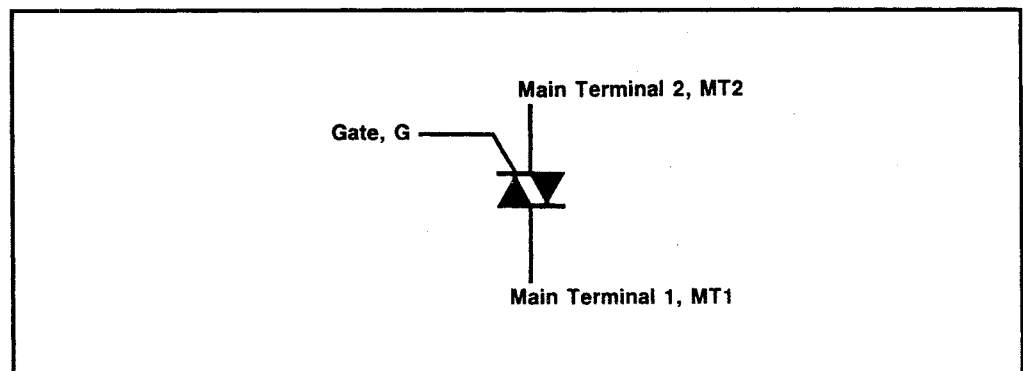

Figure 1: Triac symbol and connections
Triacs are a refinement of the thyristor which, when triggered, conducts on both positive and negative half-cycles of the applied voltage. Triacs have three terminals known as main terminal one (MT1), main terminal two (MT2) and gate (G), as shown in Figure 1. Triacs can be triggered by positive and negative voltages applied between G and MT1 with positive and negative voltages present at MT2 respectively. Triacs thus provide full-wave control and offer superior performance in AC power control applications when compared with thyristors (which only provide half-control).